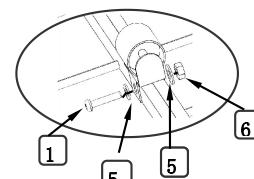

Fig 3
Assemble the Wheel (D) to the Platform (A), use Bolt #2, Washer #5, Nut #6, tool #7 & 9, see fig 2. Connect the Platform (A) & Platform (B) together by Wheel (E). Use Bolt #1, Washer #5, Nut #6, tool #7 & 9, See Fig 3. The direction of the bolts from Platform (A) to Platform (B), as shown in the above.